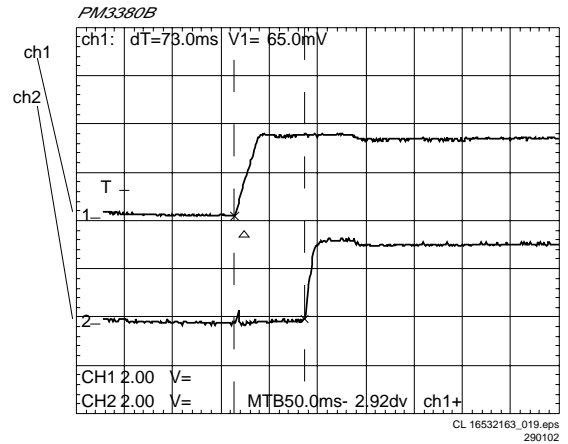

Figure 5-1 Reset
**Nb:** The RESETh rising edge should be at least 100msec after the +3V3ST (refer to Figure 5-1). If the reset input does not go high then check the reset circuit around transistor 7409.